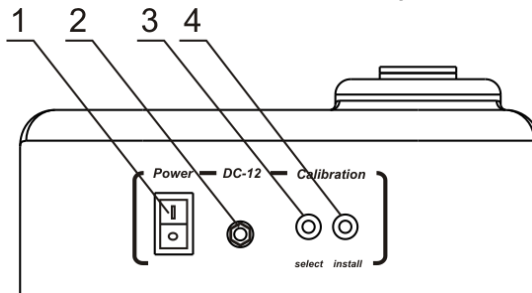

Fig.2 Rear panel
- Alternatively, connect the external power supply to the socket (fig.2/2) on the rear side of the unit.
3.4.2. Switch ON the unit using the **Power** switch (Fig.2/1) on the rear panel (position I).
3.4.3. Press the **Select** button (fig.2/3) on the backside of the unit. A flashing “-.-” indication will be shown on the display, showing that the unit is ready to save calibrations value of the first calibration point - the empty socket.
3.4.4. Press the **Install** button (fig.2/4), the empty socket calibration value will be saved in the unit memory and the next calibration value is displayed (flashing figure “0.00”).
- 4.2. Switch **ON** the unit using the **Power** switch (Fig.2/1) on the rear panel (position I).